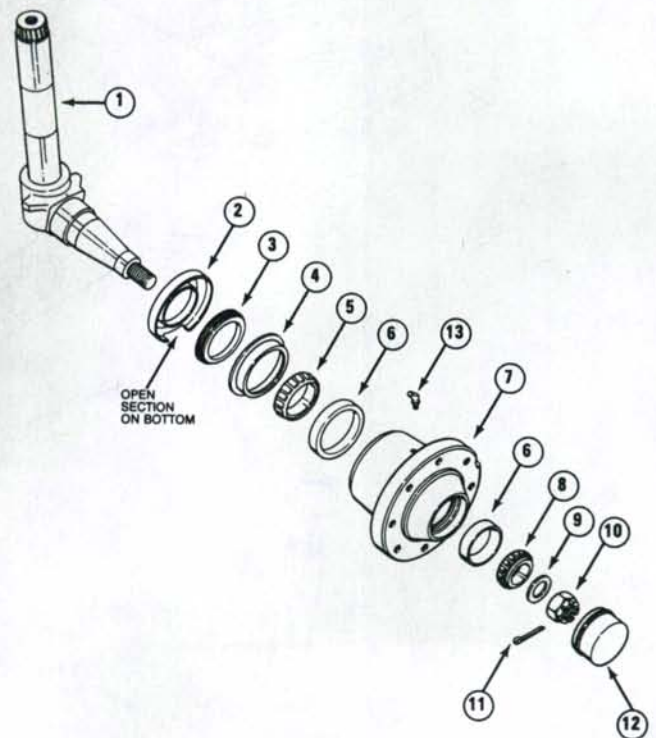

Fig. 1—Exploded view of front wheel hub and bearing assembly used on all two-wheel drive tractors.
1. Refer to Fig. 1 for typical wheel hub and bearing assembly. The tapered inner and outer roller bearings are not interchangeable. Clean and inspect bearing cups and cones and renew as necessary.